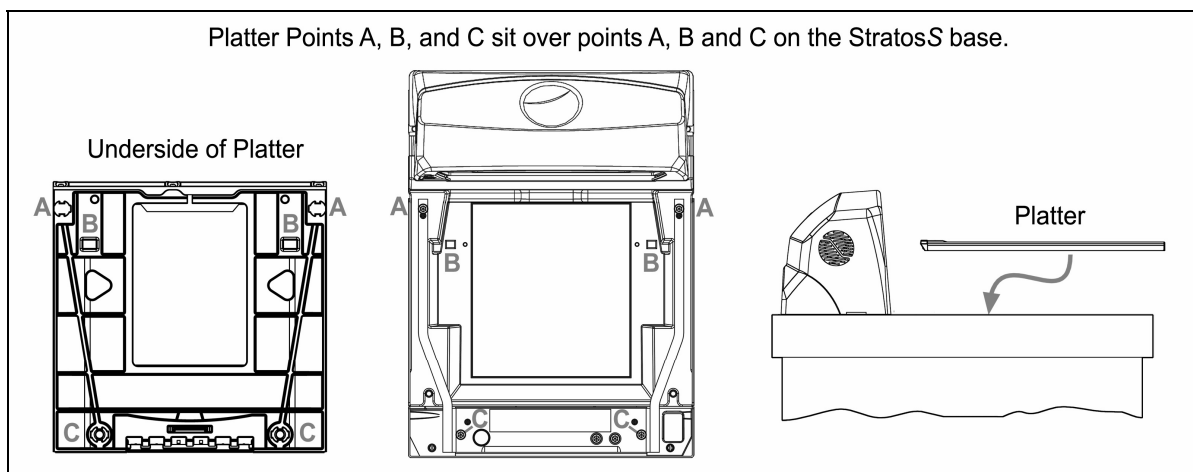

Figure 47. Platter Installation
4. Reinstall the platter onto the MS2420 scanner/Diva scale (see *Figure 47*).